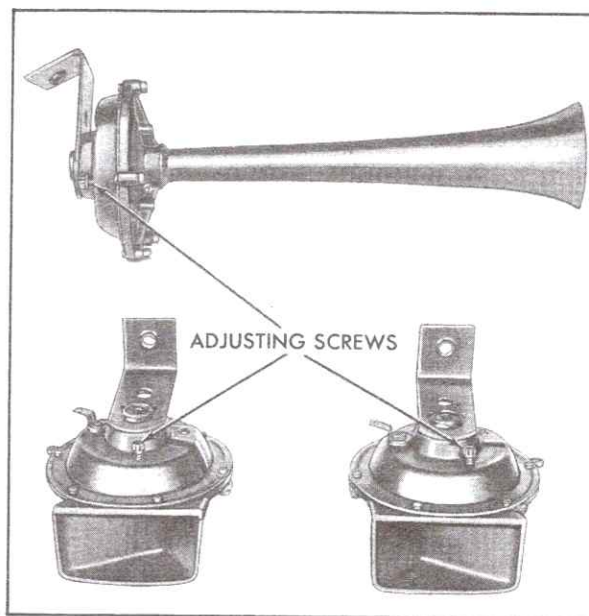

Fig. 12-18 Horn Adjusting Screw
5. If horn still fails to blow until tapped, turn adjustment screw, Fig. 12-18, one full turn counterclockwise with pliers.
Turn adjusting screw, Fig. 12-18, counterclockwise to increase current or clockwise to decrease current until specified current is reached. Care must be taken not to turn the adjusting screw too far. Turn only 1/4 of a turn at one time. If adjustment loosens the screw excessively, it may be staked with a punch.
If horn fails to blow in cold weather, it is possible that current limit is set too low although still within 4.5 - 5.5 ampere limit (each horn) at 12.0 volts. Turn adjusting screw 1/4 turn counterclockwise (90°) to increase draw, Fig. 12-18.